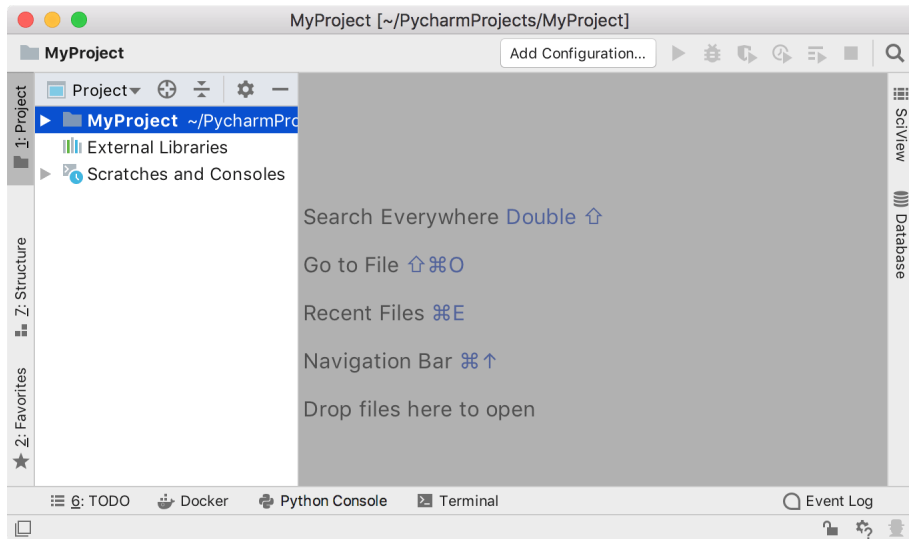

Fig. 29.
- The new project will be created as in Fig. 29. By this time, the editor area is grey as you don't have any files in your project. Create a Python file to start coding your script.